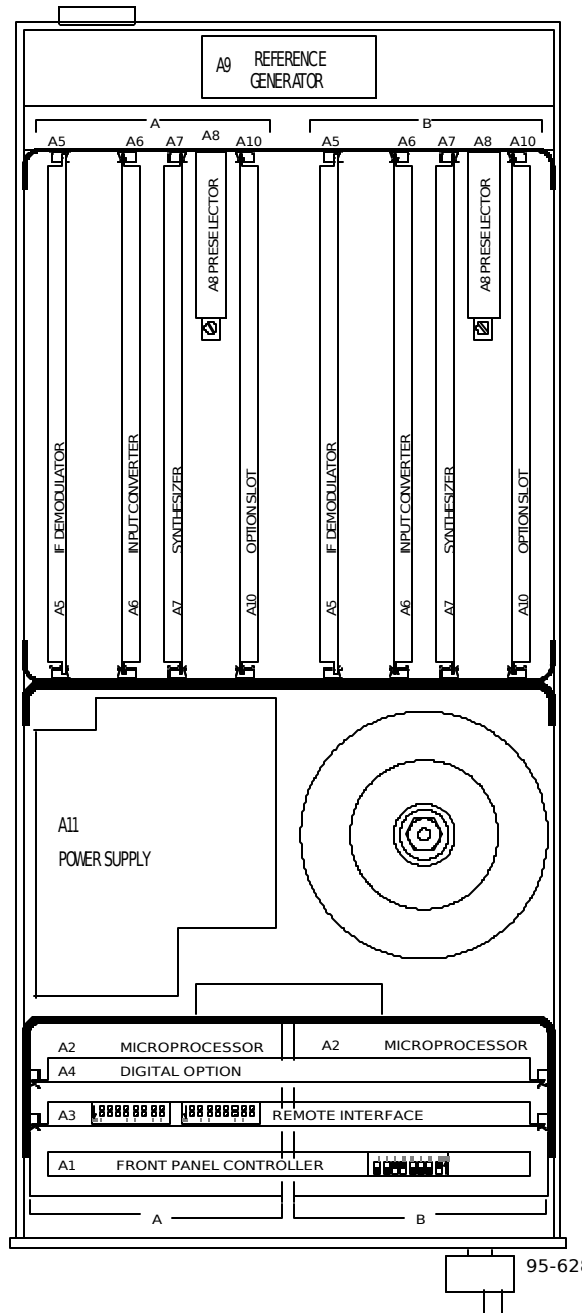

Figure 4-1. WJ-8700 Board Locations
1. With the receiver right side up, locate the Remote Interface card, A3. Refer to **Figure 4-1** for the location of this card. This is a plug-in card found behind the front panel and in front of the power supply.
1. With the receiver right side up, locate the Front Panel Control Assembly, A1A1. Refer to **Figure 4-1** for the location of this card.